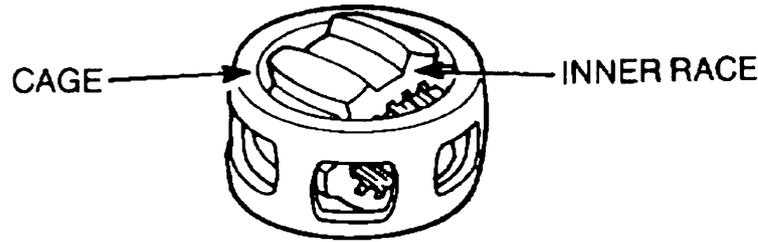

Figure 263 Removing the Inner Race
e. Turn the inner race at right angles to the cage with two of the lands opposite the cage windows and remove the race (Figure 263).
- Turn the inner race at right angles to the cage with two of the lands opposite the cage windows and insert the race (Figure 263).